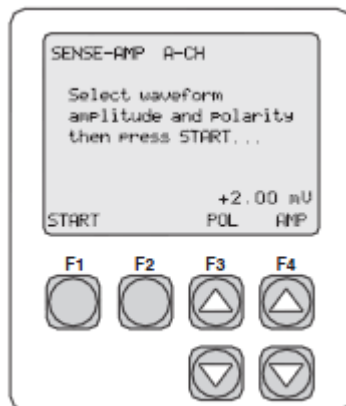

Figure 8
- Depress and hold the Down Arrow key under “F4” until the mV value is “.05”. Figure 8
- Depress “F3” (POL). (As shown in Figure 8, below.)
- Depress and hold the SIGMAPACE 1000 Down Arrow key under “F4” until the mV value is “.05”. Figure 8